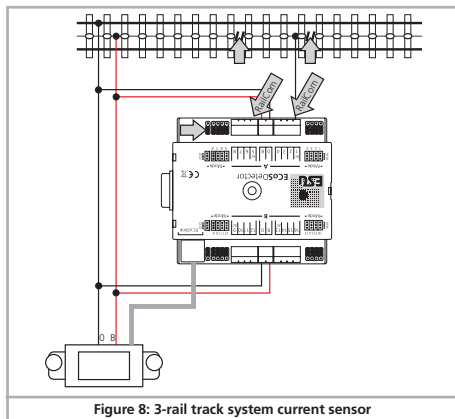

Figure 8: 3-rail track system current sensor
- Connect the inputs „0“ and „B“ of the ECoSDetector with the appropriate booster output. In the example shown in figure 8 both feedback groups „A“ and „B“ are supplied by the same booster. Therefore the terminals „0“ and „B“ on both sides of the ECoSDetector must be connected with each other. If you use a separate ECoSBoost for group „B“ (feedback inputs 9 through 16) then the